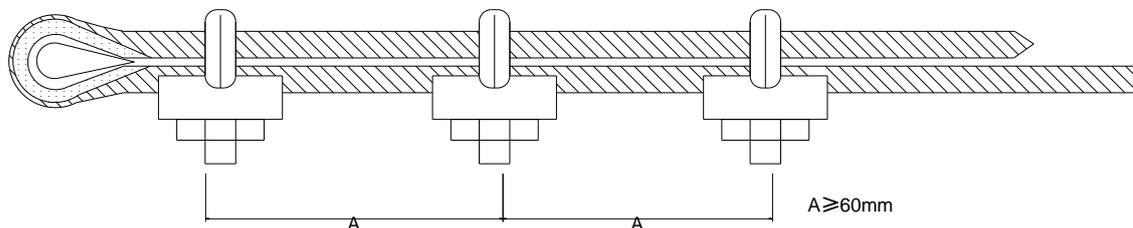

Figure 11
**5.2.7** Fix the coupling sleeve on the tommy bar of the rear base. Lead one end of the reinforcing steel rope into the coupling sleeve of front beam and tighten the rope clamp (**see Figure 11**). Lead the reinforcing steel rope to the rope sheave on upper column and the other end through the hole of the close side of the turnbuckle, tighten the rope clamp. Adjust the screw bar of the turnbuckle and tighten the reinforcing steel rope to raise one end of front beam about 3cm.